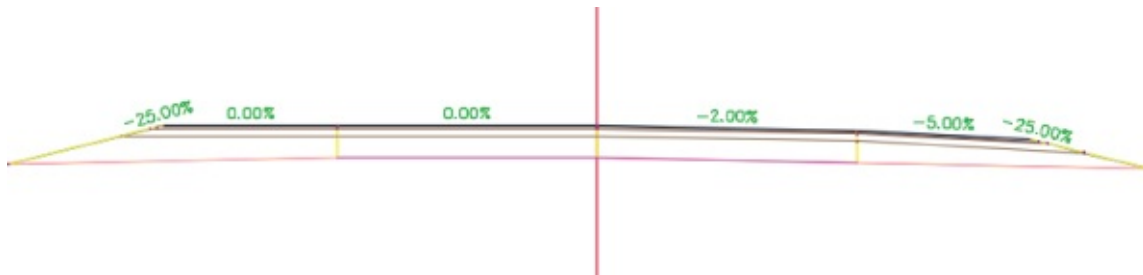

Figure 11.3 Level Crown (LC), where the outside lane flattens
Level Crown (LC) One side of the assembly will flatten to 0.00%, as shown in Figure 11.3. This occurs in the Transition In region as well as the Transition Out region. It marks the beginning of runoff distance in the Transition In region and the beginning of runout distance in the Transition Out region.